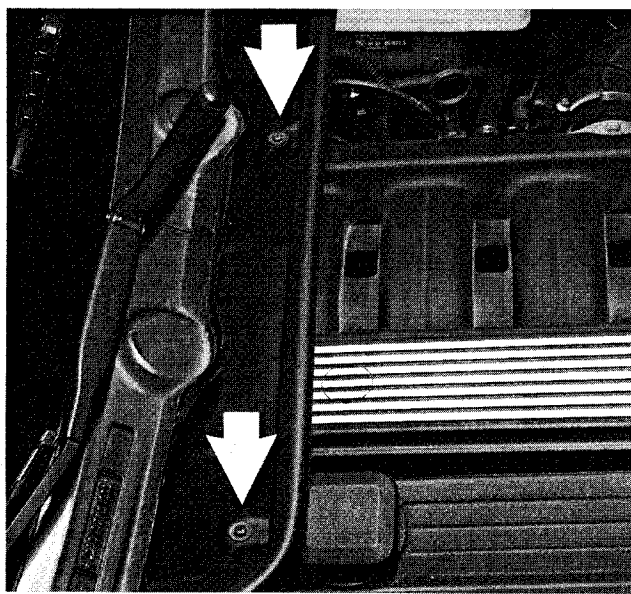

Fig. 6. Engine bulkhead wiring harness cover screws (arrows).
5. Remove wiring harness retaining clip from bulkhead in rear of engine bay. Remove screws retaining wiring harness protective cover. See Fig. 6.